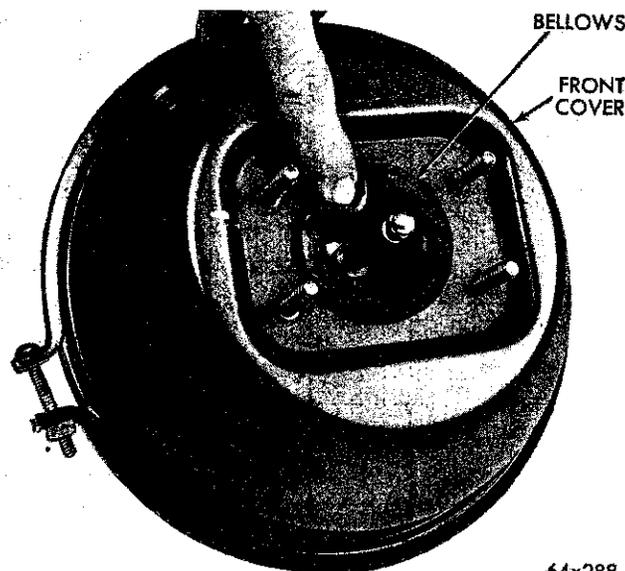

Fig. 26—Unseating the Bellows Seal
(1) Remove the four master cylinder attaching nuts and remove the master cylinder.
(2) Scribe an aligning mark across the joint of the front and rear portions of the booster assembly. This will insure correct alignment during reassembly.
(3) Remove the dust boot from the operating rod.
(4) Remove the two filter cover retaining screws.
(5) Remove the filter cover and filter.
(6) Working from the front of the unit, push the outer lip of the bellows assembly into the vacuum chamber (Fig. 26).
(7) Remove the clamp band securing the front to the rear housing.